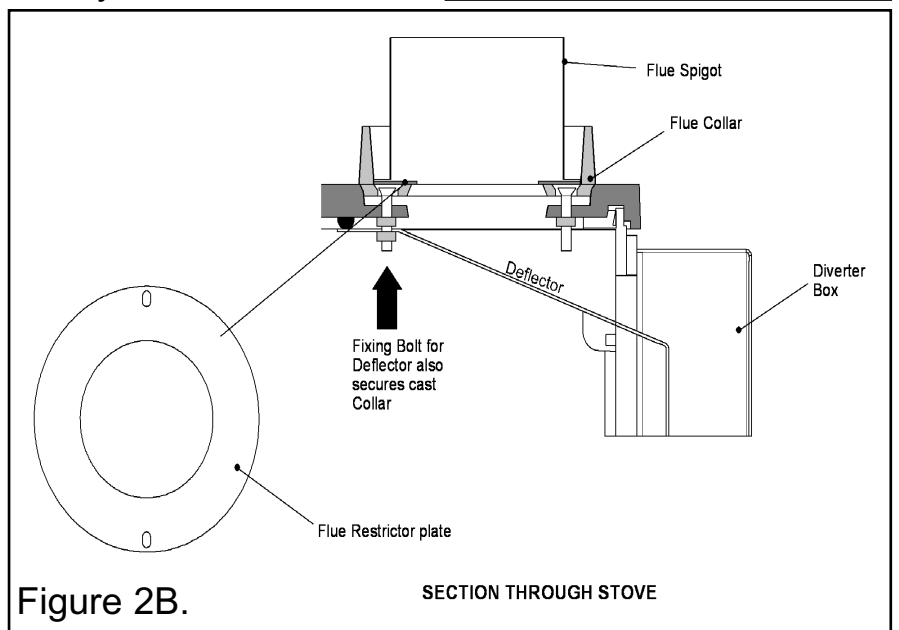

Figure 2B.
- The flue restrictor is for use where the flue draught is excessive. The flue spigot is screwed to the cast flue collar and clamps the flue restrictor plate in place (See figure 2B).